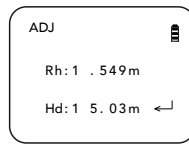

fig. 25
- Move the instrument to Point 2 and set it properly, then measure Staff B. After the data showed in fig. 25, press the SET button to the next step (fig. 26)